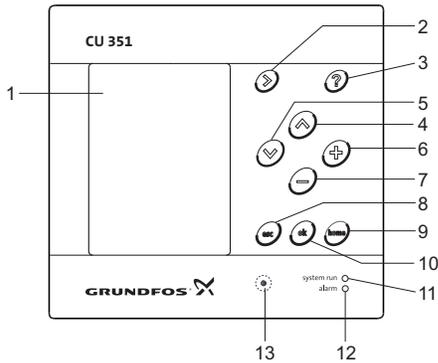

Fig. 6 Control panel
The buttons (pos. 2 to 10 in fig. 6) on the CU 351 are active when they are illuminated.